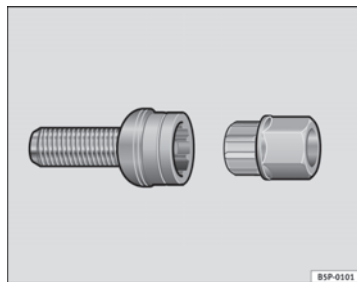

Fig. 182 Anti-theft wheel bolt
- Insert the adapter onto the wheel bolt and push it on as far as it will go → Fig. 182.